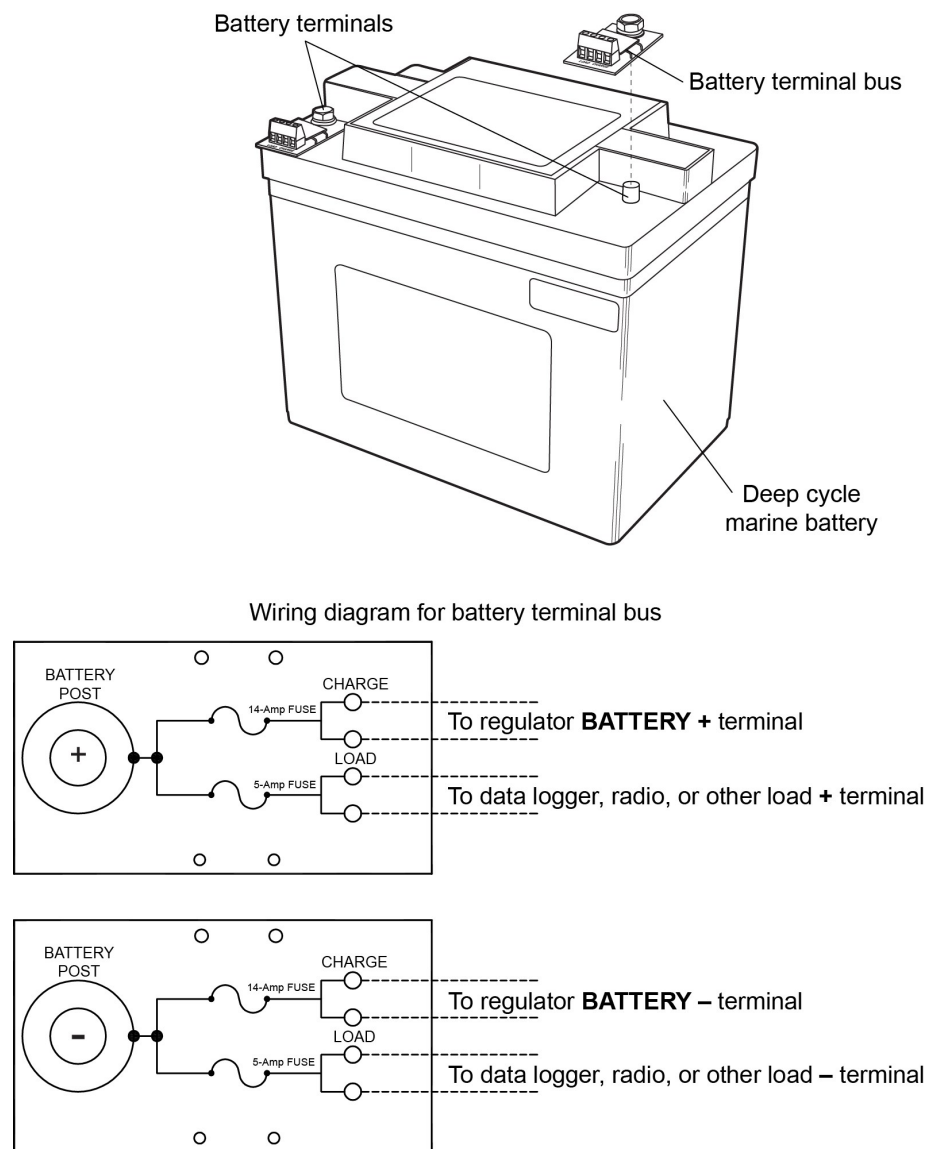

FIGURE 3-23. Installing the battery terminal bus kit
- If using deep cycle marine battery along with the SP50-L, SP90-L, or SP370-L solar panels, install a battery terminal bus on each terminal of the user-supplied deep cycle battery as shown in FIGURE 3-23 (p. 24).